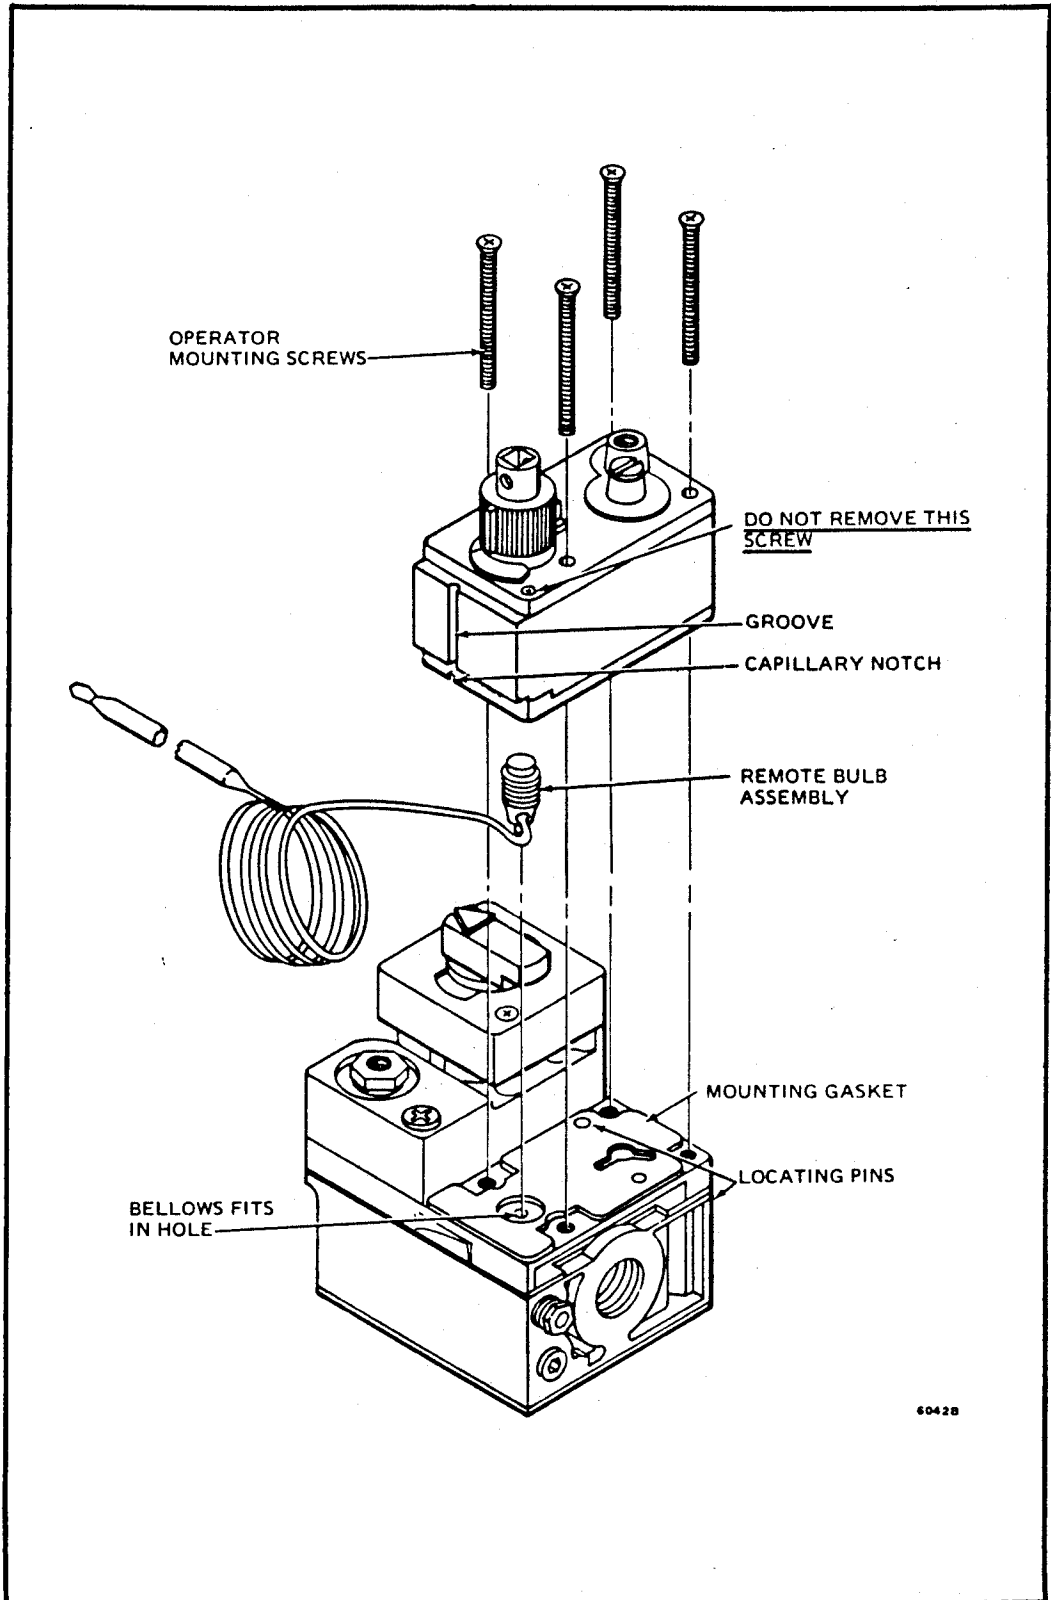

Fig. 21—Installing operator, bulb and bellows assembly on V500 control.
Loosen the 4 mounting screws and remove the old operator, bellows and gasket from the control body. **DO NOT** loosen the screw at the edge of the operator, see Fig. 21.
4. Place the bellows tip into the hole in the control body, Fig. 21.